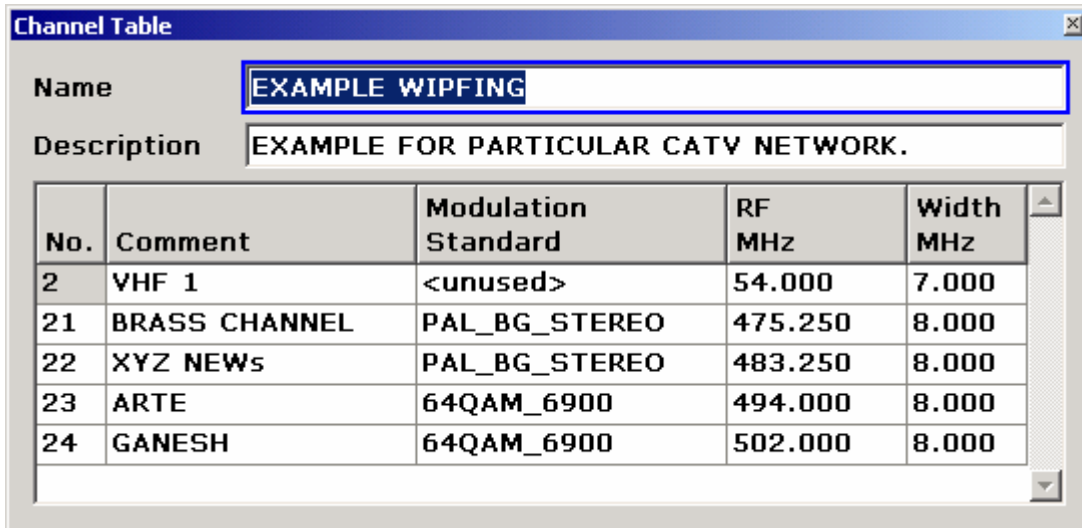
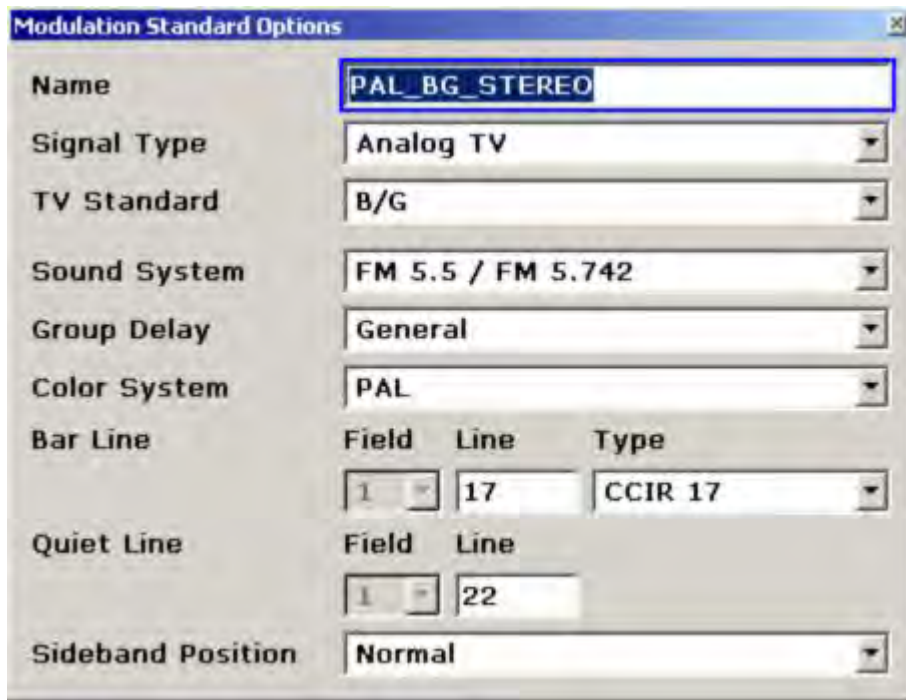

Fig. 2-45 The channel table and its properties
Fig. 2-47 Modulation Standard Options dialog box for analog TV
For detailed information on channel tables refer to section Channel tables, for modulation standards refer to section Modulation standards. A detailed example is provided in section Example: Creating a channel table. Fig. 2-45 gives an example of a channel table that references the modulation standard "PAL_BG_STEREO". Fig. 2-47 shows that modulation standard.
- Channel tables (see Fig. 2-45) have a **Name**. The name should comprise geographical information, e.g. "SOUTHAMPTON" or "EXAMPLE_WIPFING".
Most important when dealing with modulation standards is the order of the parameters. Modulation standards (see Fig. 2-47) have always to be created and edited from top to bottom of the **Modulation Standard Options** dialog box. The most important parameters are located at the top of the dialog box. For example, changing the signal type from **Analog TV** to **Digital TV** also alters the complete set of parameters below. Whereas the modulation technique for transmitting the color information is essential in analog TV systems (see **Color System** in Fig. 2-47), it does not exist for digital TV systems. The constellation instead is crucial in digital TV systems (see Fig. 2-48). For that reason the Cable TV Measurements option automatically guides you through the whole process of creating a new modulation standard and only confronts you with mandatory parameters.